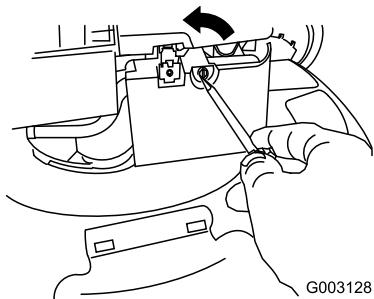

Figure 28
- Use a screw driver to open the air filter cover (Figure 28).